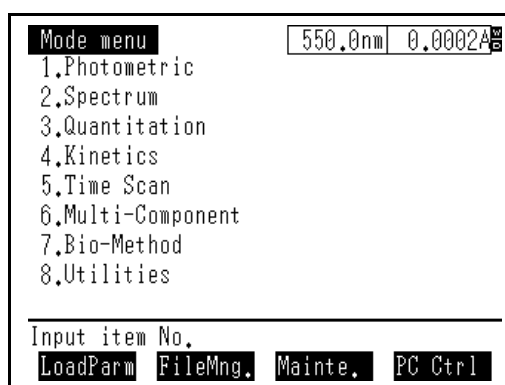

Fig. 3.1
- 3 Press the **RETURN** key to return to the Mode menu screen (Fig. 3.1).